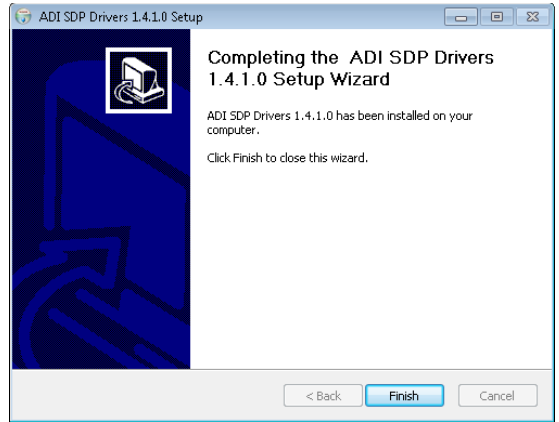

Figure 9. Completion of Installation Window
4. When the SDP drivers installation completes, click Finish (see Figure 9).